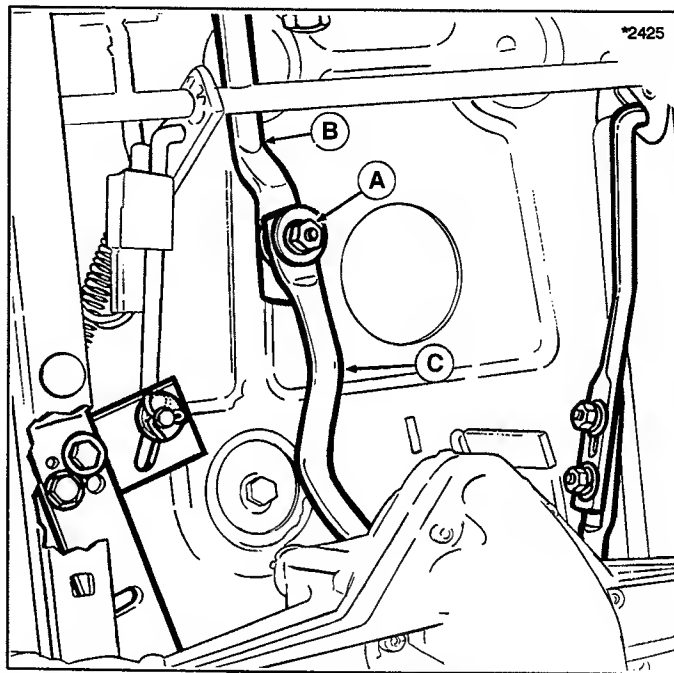
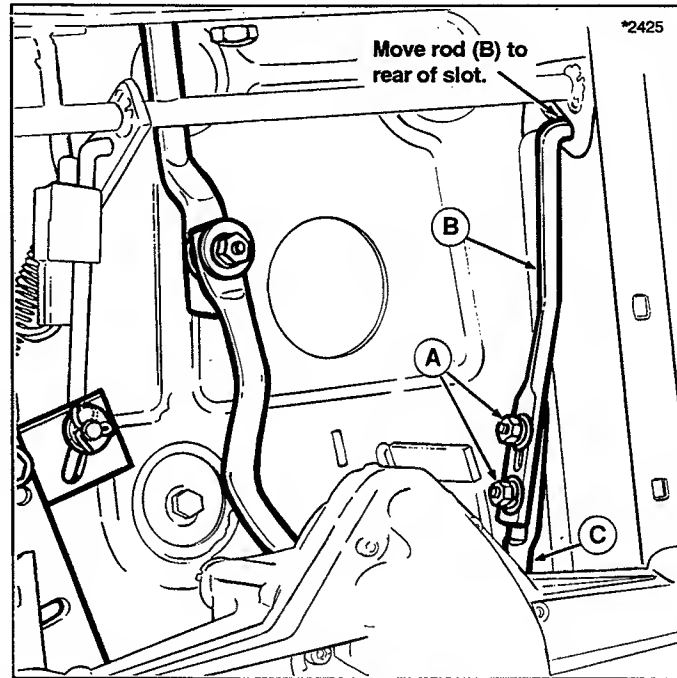

Figure 29. Neutral Adjustment (Hydro Models)
Figure 30. Return-to-Neutral Adjustment
3. Loosen the nut (A, figure 29) that secures the front hydro control rod (B) to the rear rod (C). Control rod must be free to move. If performing the return-to-neutral adjustment, loosen the two nuts (A, figure 30) that secure the front return-to-neutral rod (B) to the rear rod (C). Front return-to-neutral rod must be free to move.
5. Tighten the nut (A) securely to 17 ft. lbs.
Perform the following adjustment if the shift lever does not return to the neutral gate when the clutch/brake pedal is fully depressed. Make sure the front hydro control rod (B, figure 29) is lubricated and does not bind in the carrier frame hole.
2. Loosen the two nuts (A, figure 30) that secure the front return-to-neutral rod (B) to the rear rod (C). Front return-to-neutral rod must be free to move.